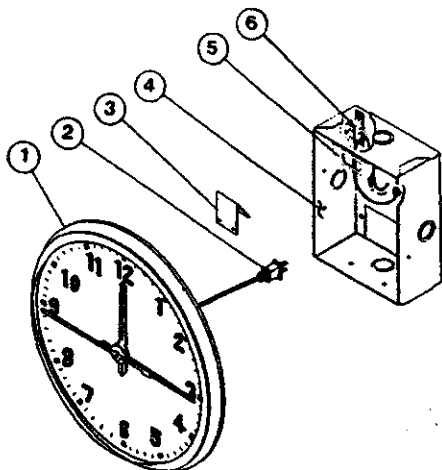

Figure 1: Semi-Flush Mount Assembly
1. Install wall box (Fig. 1 & 2, #4) and pull power wires into box.
2. For Independent Clock: Connect wires to receptacle (Fig. 1, #6).
4. Mate connectors and wrap excess wire around dust cover on back of clock. Hang clock on hanger bracket (Fig. 1 & 2, #5) and adjust bracket so clock is flush with wall.